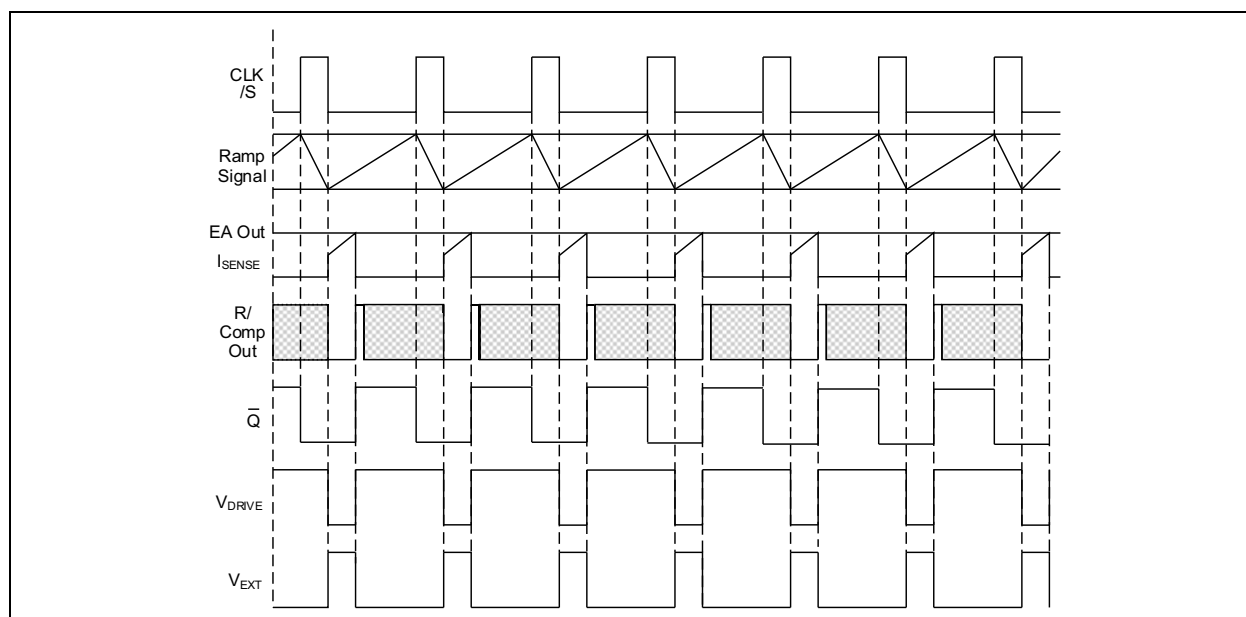

FIGURE 4-1: PWM Timing Diagram.
The beginning of a PWM cycle is defined by the internal CLK signal (a transition from high-to-low). Refer to Figure 4-1 for the detailed timing operation of the MCP1633 PWM controller. For normal operation, the state of the high-speed comparator output (R) is low, and the Q output of the latch is low. On the high-to-low transition of the CLK signal, the SR inputs to the high-speed latch are both low, and the Q output will remain unchanged (low). The output of the OR gate (V_{DRIVE}) will transition from high-to-low, turning on the P-Channel drive transistor in the output stage of the PWM. This will change the PWM output (V_{EXT}) from low-to-high, turning on the power train MOSFET and ramping current in the power train magnetic device. The sensed current in the magnetic device is fed into the CS input, shown as a ramp, and increases linearly until it reaches the same level as the divided down output of the error amplifier at the noninverting input of the high-speed comparator. The comparator output (R) changes state (low-to-high) and resets the PWM latch. The Q output transition from low-to-high turns off the V_{EXT} drive to the external MOSFET driver, thus terminating the current conduction cycle. The CLK signal will transition from low-to-high while the V_{EXT} pin remains unchanged. If the CS input pin never reaches the same level as the error amplifier output, the low-to-high transition on the CLK signal terminates the current switching cycle. This would be considered as the maximum duty cycle. In either case, while the CLK signal is high, the V_{EXT} drive pin is low, turning off the external power train switch. The next switching cycle will start on another transition of the CLK signal from high-to-low.